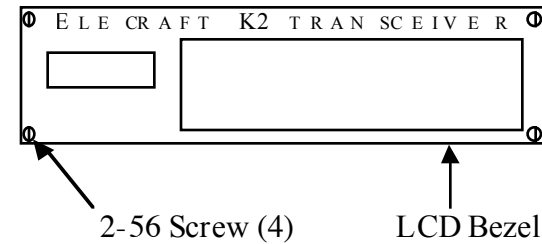

Figure 5-15
- Position the clear plastic LCD bezel over the LCD and bargraph holes, then secure it with four 2-56 screws (stainless steel) as shown in Figure 5-15. **Tighten the 2-56 screws only the amount needed to hold the bezel to the front panel. Overtightening may crack the bezel or strip the threaded holes in the panel.**